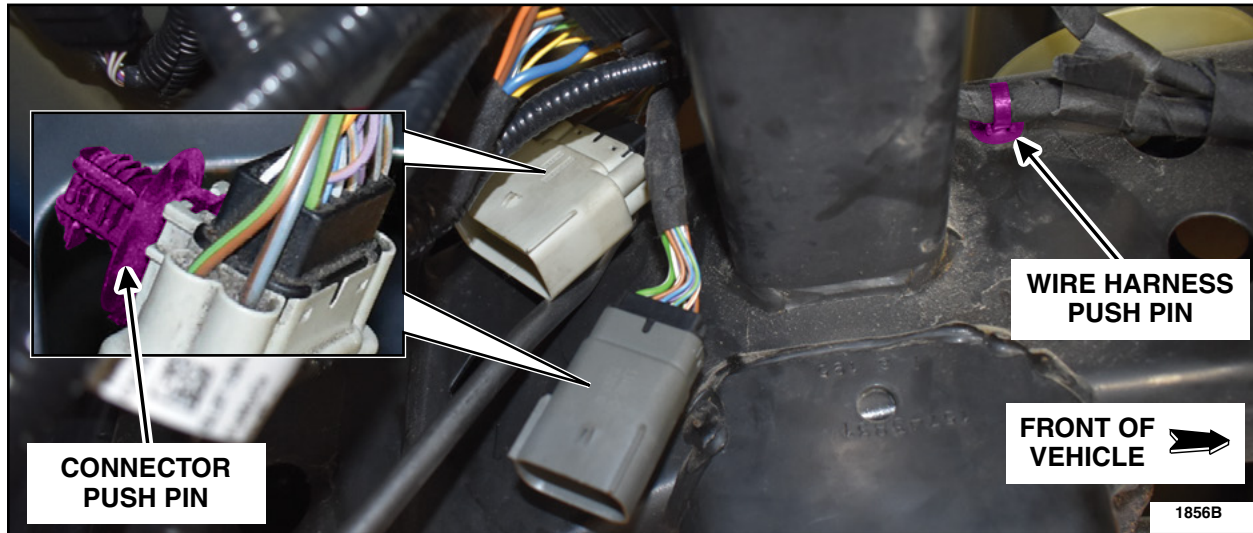

FIGURE 3
6. Detach the two connectors and the wire harness push pin retainers. See Figure 3.